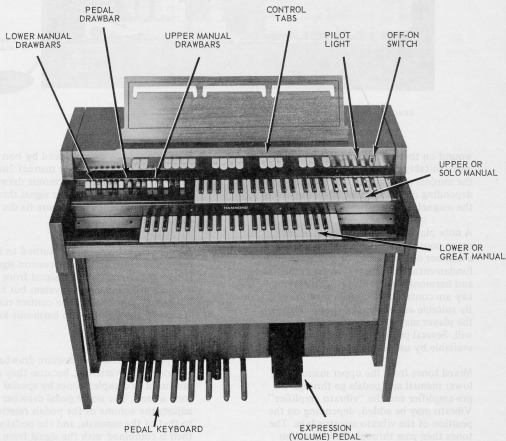

Figure 1-1. L-100 Console, Front View
- 1-1. GENERAL** – This section contains a description of the operating principles of L-100 Series organs. Figures 1-1 and 1-2 depict the locations of the various subassemblies. Figure 1-3 is a block diagram.
A toggle switch (Figure 1-1) controls power to the organ.
- 1-9. **EXPRESSION PEDAL.** – The expression pedal, sometimes called "swell" pedal (Figure 1-1) is operated by the player's right foot and varies the volume of both manuals and pedals together. When the pedal is tilted back (closed) by pushing on the player's heel the music is softest, and when pushed forward (opened) by the player's toe the music is loudest.